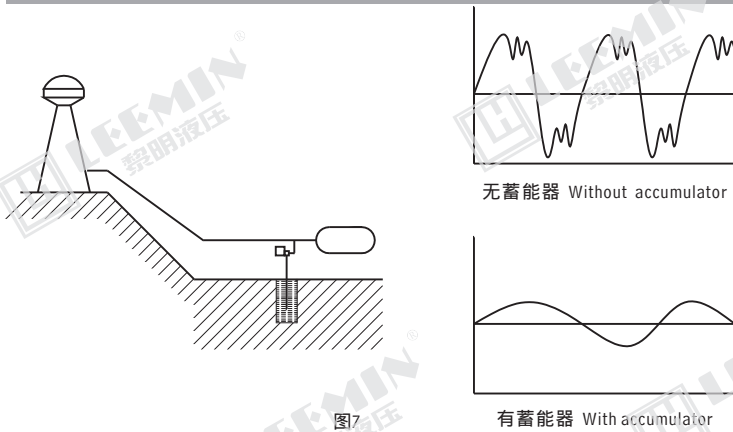

图7
6、阀的快速关闭会产生冲击波（水锤现象），导致管子、接头、阀等部件的损坏。使用蓄能器能大大地减少冲击。典型用途为水管（图7）、燃油和油的远距离管路、洗涤设备等。
Rapid closing of the valve can generate pressure waves which travel through the pipe lines causing water hammer. The use of a suitable accumulator can bring the pressure surge back to an acceptable value. Typical applications are water pipe (Fig.7), fuel and oil distribution circuits, washing equipment etc.